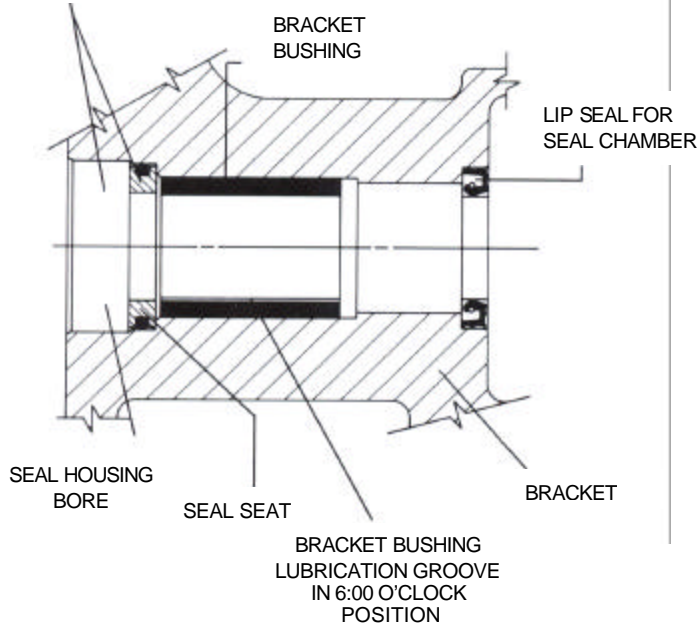

FIGURE 9
5. Start seal seat in seal housing bore, refer to Figure 9. If force is necessary, protect seal face with a clean cardboard disc and gently tap it in place with a piece of wood.